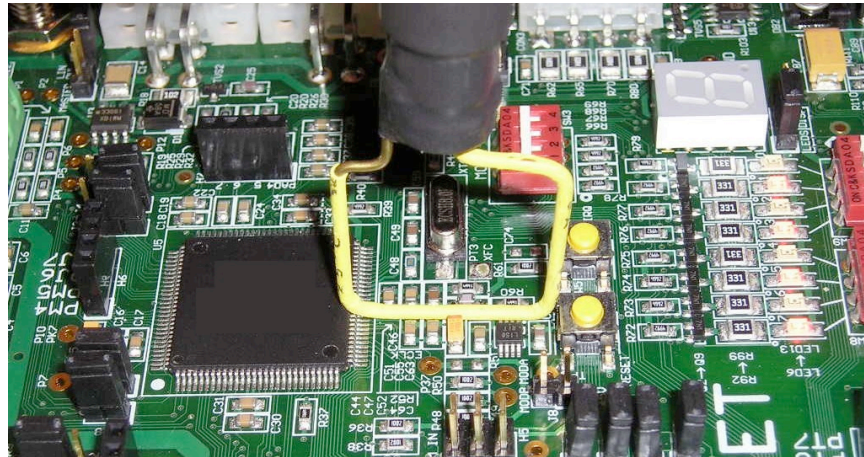

Figure 12, Applying induced voltage pulses to a PCB
2. With the board operating, scan the board with the square loop, then rotate the loop 90 degrees and repeat to get both X and Y paths on the board. See Figure 12.